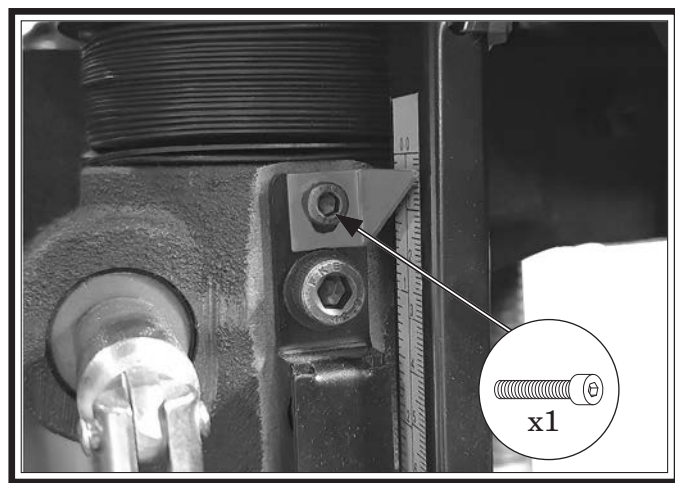

Figure 60. Location of adjustment screw for table height scale.
2. Loosen scale pointer cap screw shown in **Figure 60**.
3. Adjust scale pointer to $\frac{1}{4}$ " mark on scale, then tighten cap screw (see **Figure 60**).